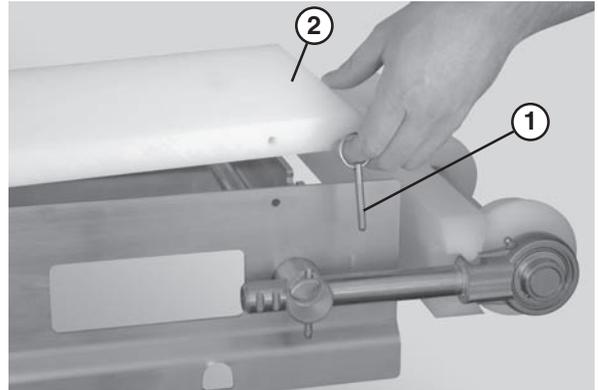

Figure 39
1. Remove the guides, if applicable, by removing the pull pins (Figure 39, item 1) that connect the guide (Figure 39, item 2) to the frame.